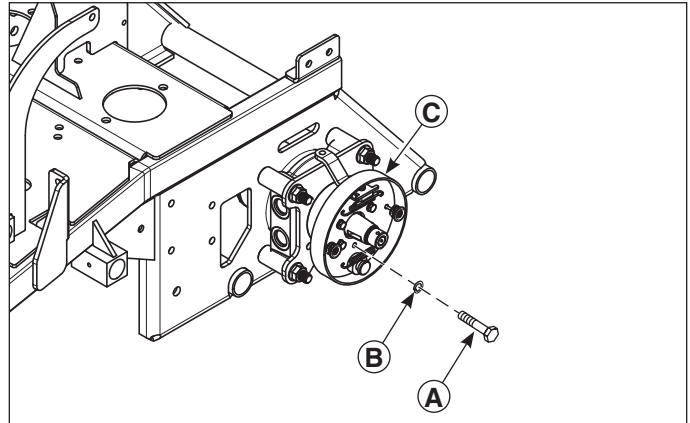

Figure 5. Removing the Brake Assembly
9. Loosen and remove the six (6) M6-1.0 X 14MM capscrews (A, Figure 5) and the 1/4 lock washers (B) that secure the brake assembly (C) to the wheel motor. Remove the brake assembly.
13. Refer to Figure 5. Reinstall the brake assembly (C, Figure 5) onto the wheel motor and hand start all six (6) M6-1.0 X 14MM capscrews (A) and 1/4 lock washers (B) that were removed in step # 9. Turn the brake assembly clockwise until it is centered, hold brake assembly in place and torque the M6-1.0 X 14MM capscrews to 84 in/lbs (9,5 Nm).